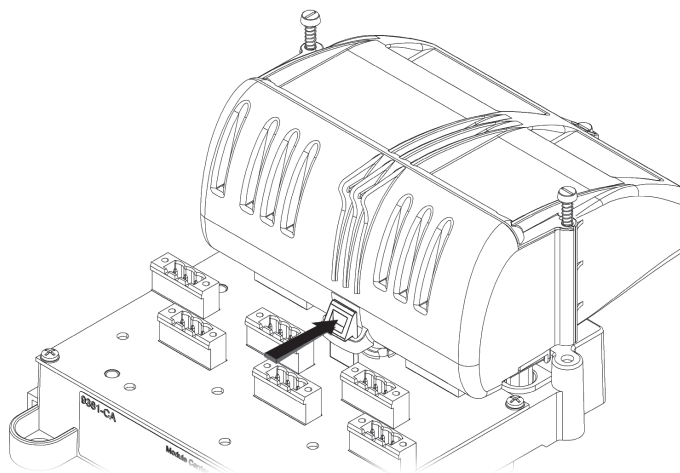

Figure 5.2 - Safety retaining clip for barrier
- Slowly pull the 9377-FB Fieldbus Barrier module away from its connections on the carrier until the safety retaining clip stops further removal. See Figure 5.2.